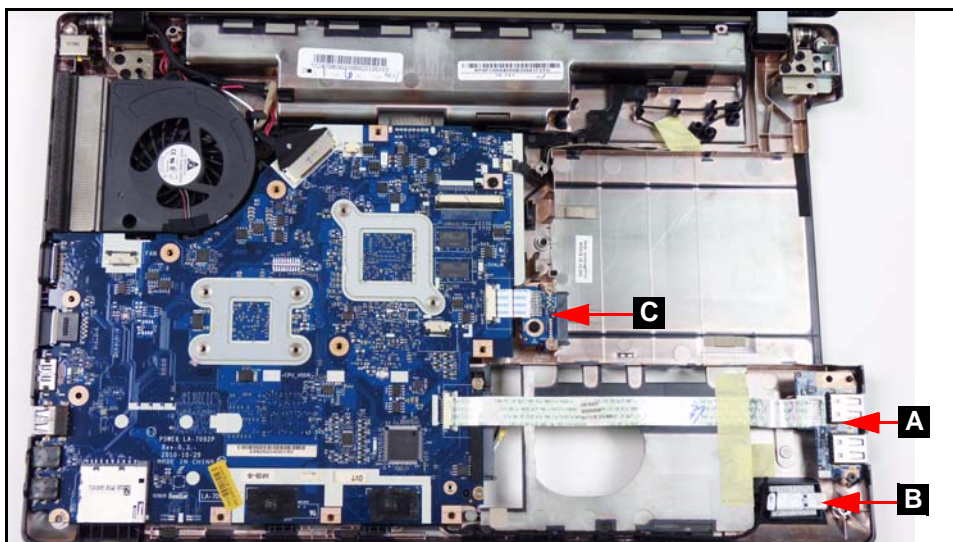

Figure 3-24. Component Location
1. Find USB (Universal Serial Bus) board (A) on lower cover. (Figure 3-24)
1. Install USB board (F) on lower cover. (Figure 3-24)
1. Find ODD board (C) on lower cover. (Figure 3-24)
1. Install USB module (C) on lower cover. (Figure 3-24)
1. Find Bluetooth board (B) on upper cover. (Figure 3-24)